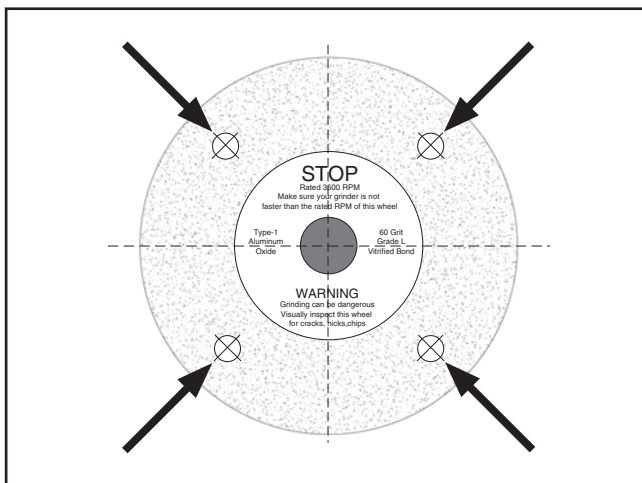

Figure 5. Tapping locations when performing a ring test.
3. At the spots shown in **Figure 5**, gently tap the wheel with a light non-metallic device such as the handle of a screwdriver or a wooden mallet.